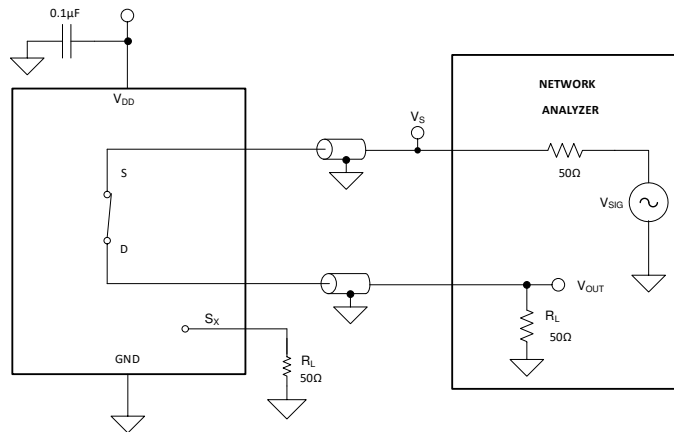

Figure 7-9. Bandwidth Measurement Setup
Bandwidth is defined as the range of frequencies that are attenuated by less than 3 dB when the input is applied to the source pin (Sx) of an on-channel, and the output is measured at the drain pin (D) of the device. Figure 7-9 shows the setup used to measure bandwidth.